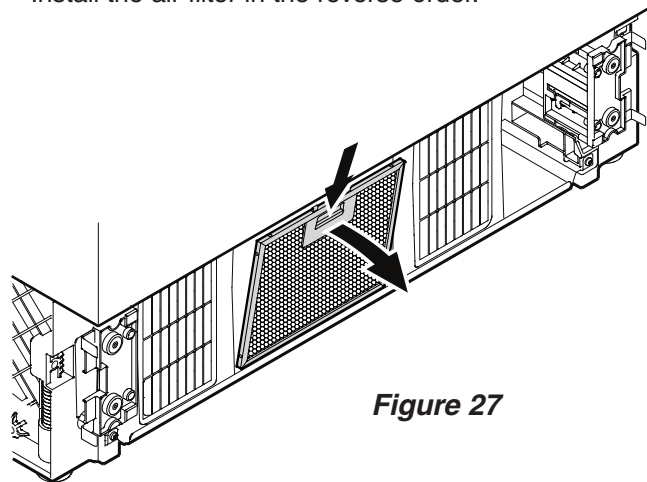

Figure 27
- Push down the button of the air filter, tilt to the front and remove - **Figure 27**.